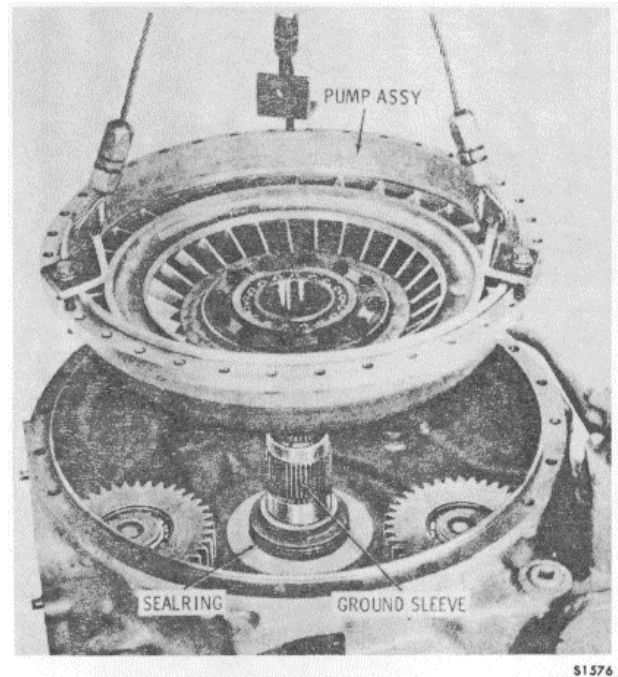

Figure 15-173. Installing Torque Converter Pump Assembly
1. Install one seal ring onto the ground sleeve (Figure 15-173).
2. Install the torque converter pump with the input accessory drive gear onto the torque converter ground sleeve (Figure 15-173). Index the accessory drive gear with the power takeoff idler gear and the oil pump idler gear. Tap on the inner race of the converter pump bearing to seat it against the shoulder on the ground sleeve.